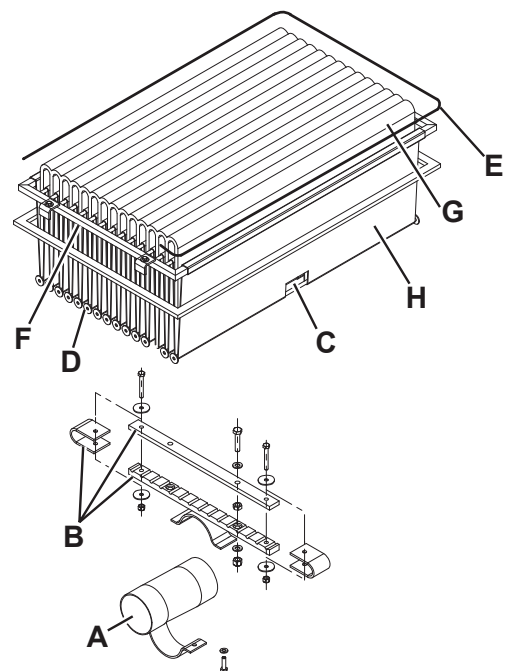

Figure 18
9. Remove the filter shaker motor (A, Fig. 18) by unscrewing the two mounting screws.
10. Open the filter shaker motor support unit (B, Fig. 18) completely, and release the filtering pocket tension rods (C).
11. Remove all the filtering pocket tension rods (D, Fig. 18).
12. Open the upper retaining cord (E, Fig. 18) of the closed pocket filter to remove it from the upper frame (F).
13. Remove the inner pocket separator (G, Fig. 18).
14. Clean the polyester fibber surface (H, Fig. 18) from the dirty side (by using an external vacuum cleaner), spreading it out completely or cleaning pocket by pocket. At the same time, clean both surfaces of the pocket separator (G, Fig. 18), thus removing anything deposited on them. Check the filtering surface for tears and replace it if necessary. It is also possible to use compressed air (maximum 6 Bar), blowing the air from the clean side towards the dirty side.